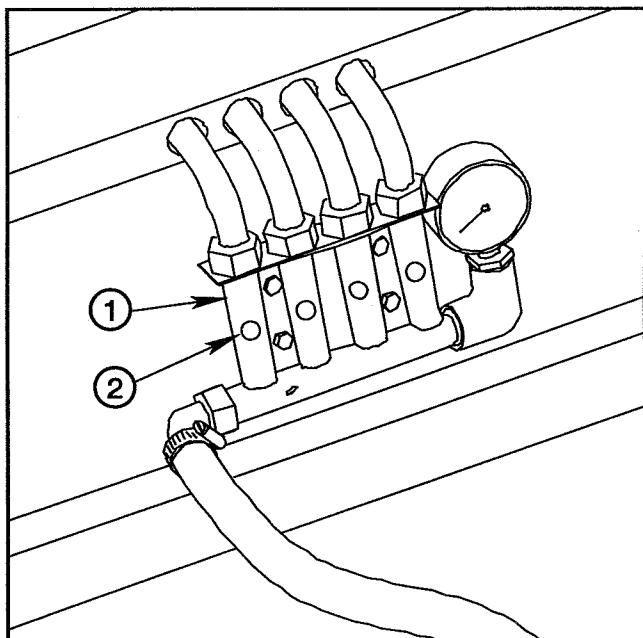

FIG 2.
2. When there is flow, all the floating balls should be at the same level. If a ball is lower than the others, this indicates a clogged nozzle. (FIG. 2.)